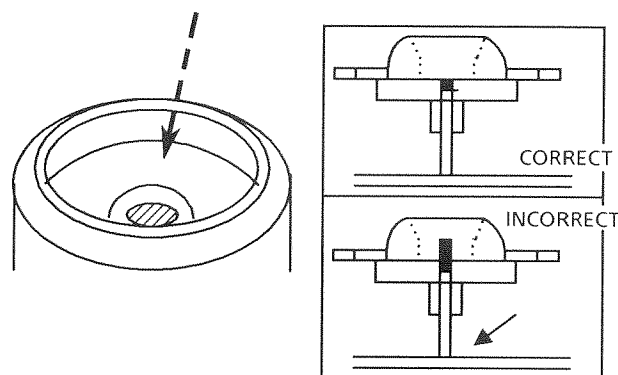

Fig. 53
- (34) After inserting the turntable, bond the motor shaft and turntable together (at the section marked by an arrow in fig 53 on the left below).
Be extremely careful not to allow bonding agent to adhere to the motor bearing (the section marked by an arrow in fig. 53 on the right).